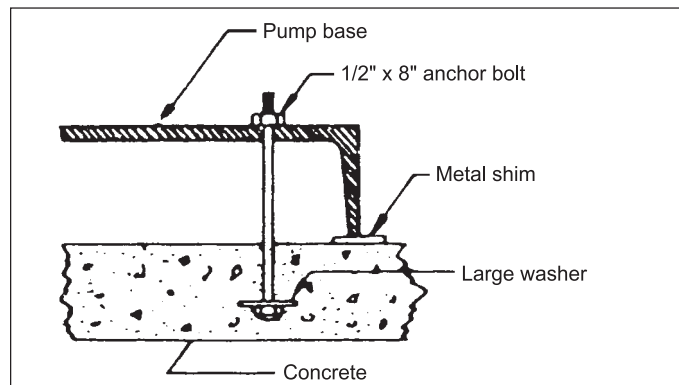

Figure 1: Concrete Foundation Diagram
- The foundation for the pump is important. The foundation must be firm, level and preferably made of concrete. The suggestions in figure 1 should be observed.